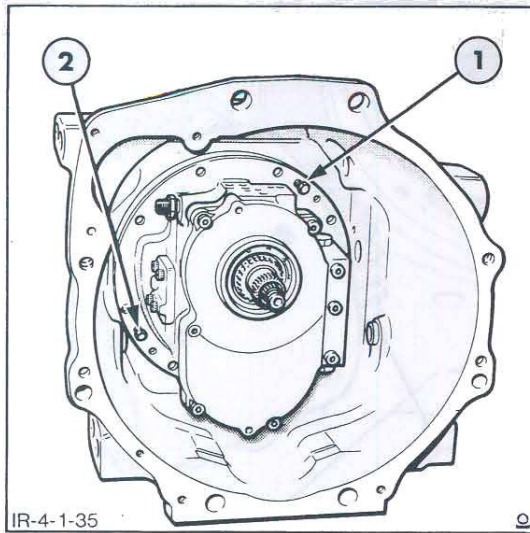

Figure 36
5. Remove the distributor housing retaining bolts. Obtain two M8 jacking bolts, approximately 30 mm (1.25 in.) long. Screw the bolts into the housing as shown in Figure 36, then continue to tighten until the distributor housing is freed from the transmission case. Lift the housing from the transmission and remove the jacking bolts.